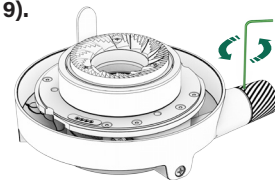
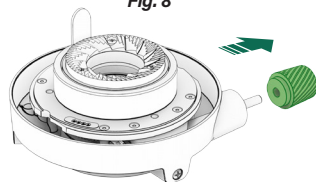

Fig. 8
Fig. 9
12.4.1. After the point 12.3.4. use a #2 Hex Allen key to untighten the screw enough to can release the knob from the axis (Fig. 8) & (Fig. 9).